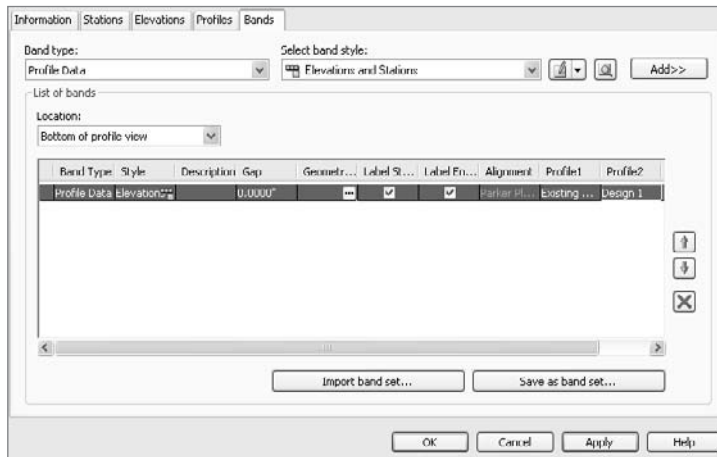

Figure 9.30
7. Click the Profile 2 column in the first row, and change the drop-down list to Design 1. The Profile 1 and Profile 2 columns assign various profiles to various label components within the band. Your dialog should look like Figure 9.30 now.